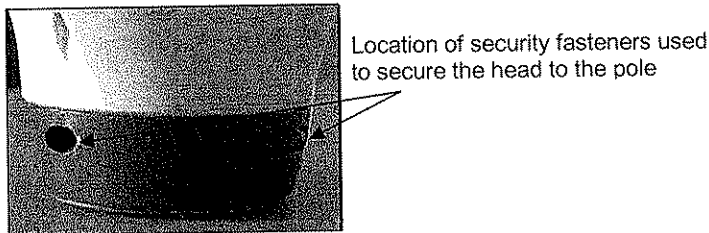

Figure 16: Bottom Collar with Location of Security Bolts
4. Firmly tighten the security fasteners located in the bottom collar with the supplied Allen key. The location of the screws is shown in Figure 16.